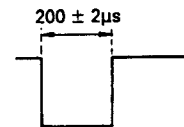

Figure 57.
3. Selecting (-) sync slope with the oscilloscope, adjust R7016 to meet the requirement given in Figure 57.